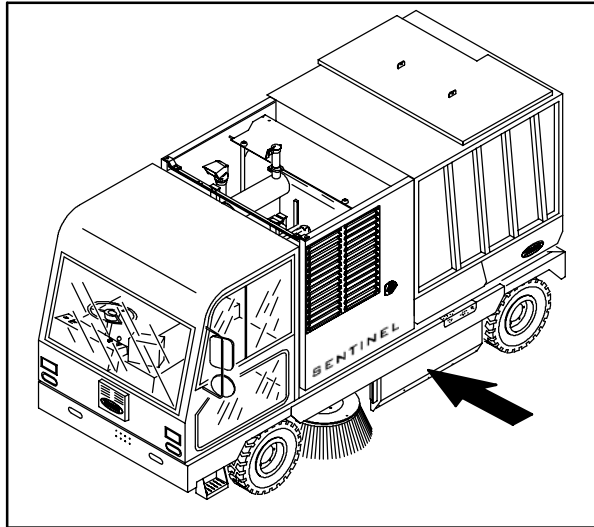

FIG. 1
1. Remove both the left and right side brush doors. Set the brush doors and hardware aside. Refer to Fig. 1.